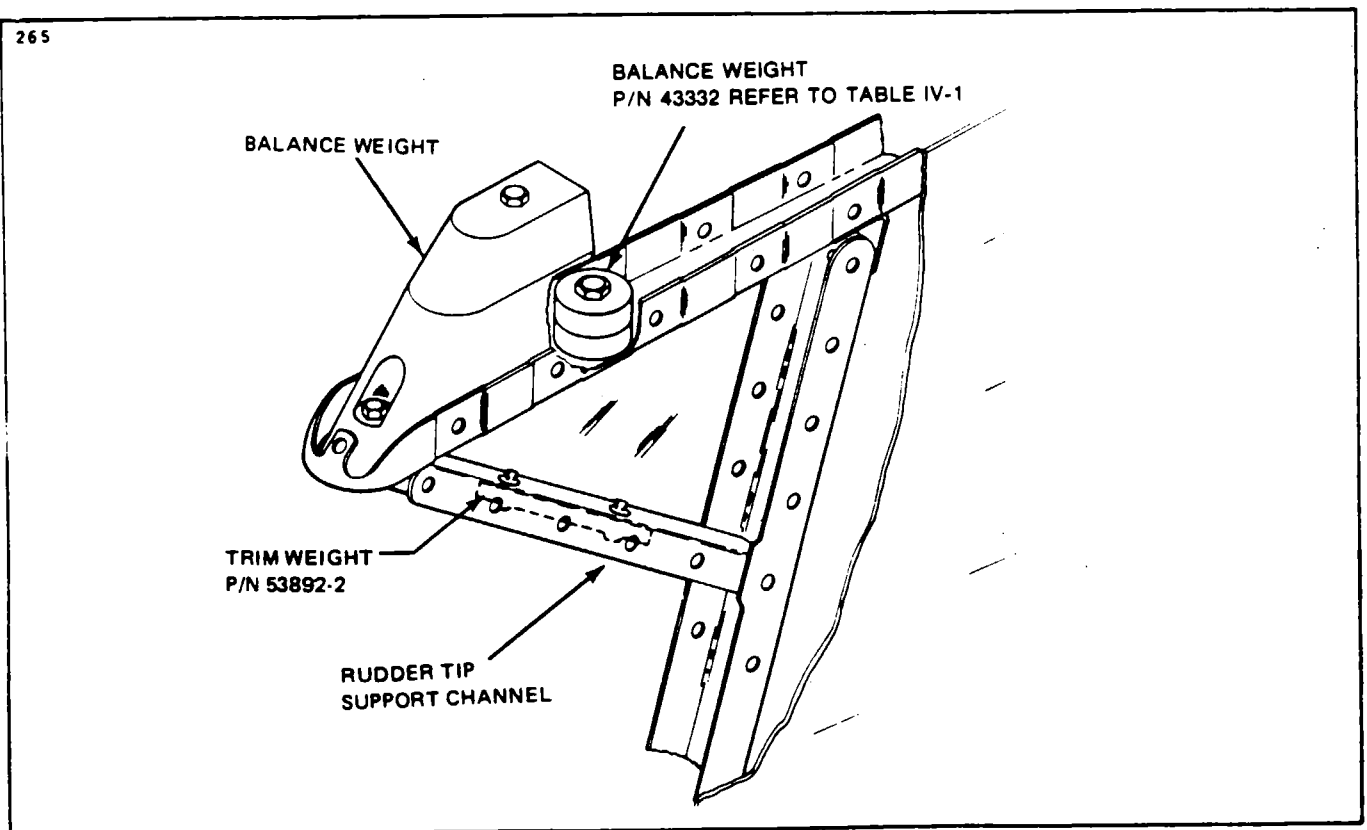

Figure 4-20. Rudder Balance Weight Location
2. A trim weight attachment point is provided and located in the web of the upper rib, approximately .62 of an inch aft of the primary balance weight. (Refer to Figure 4-20.)
- j. For rudder assemblies, part number 40046-34 or 40046-38, the trim weights are mounted below the rudder to support channel. (Refer to Figure 4-20.)
It may be necessary to cut access holes to make skin repairs in some areas of the airplane. If so, refer to Figure 4-20 for typical access plates and panels.